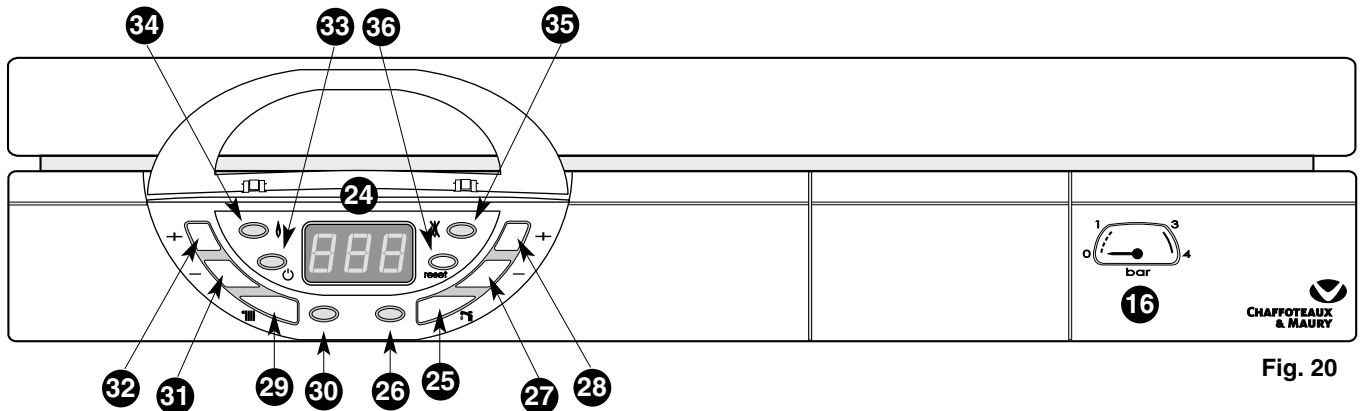

Fig. 20
Control panel (Fig. 20)
1. Check that the pressure in the central heating system is above 0.7 bar and below 1.5 bar with the pressure gauge **16** (Fig.20)
2. Check that the gas service tap is opened at the gas meter and the main power is on. Green indicator  (Power ON) **33** (Fig.20).
Press the  key **29**, the green indicator **30** (Fig.20) light and the display will show the Heating flow temperature.
Keys **31**  and **32**  (Fig.20) allow the temperature to be adjusted as required in the Central Heating system depending on the weather conditions.
Press the  key **25**, the green indicator **26** (Fig.20) will light :
Keys **27**  and **28**  (Fig.20) allow the temperature to be adjusted as required for the Domestic Hot Water flow. During the temperature setting operation the display will flash.
Press the  key **29** the green indicator **30** (Fig.20) will light.
Press the  key **25** the green indicator **26** (Fig.20) will light.
A fixed digit at the centre of the display and the green indicator **33** (Fig.20) will light.
Press the **||||** and **🔑** keys, **25** and **29** (Fig.20) to switch off both the D.H.W. and the C.H. mode. The green indicators **30** and **26** (Fig.20) will go out.
- Press the **||||** and **🔑** keys, **25** and **29** to (Fig.20) switch off both the D.H.W. and the C.H. mode. The green indicators **30** and **26** (Fig.20) will go out.